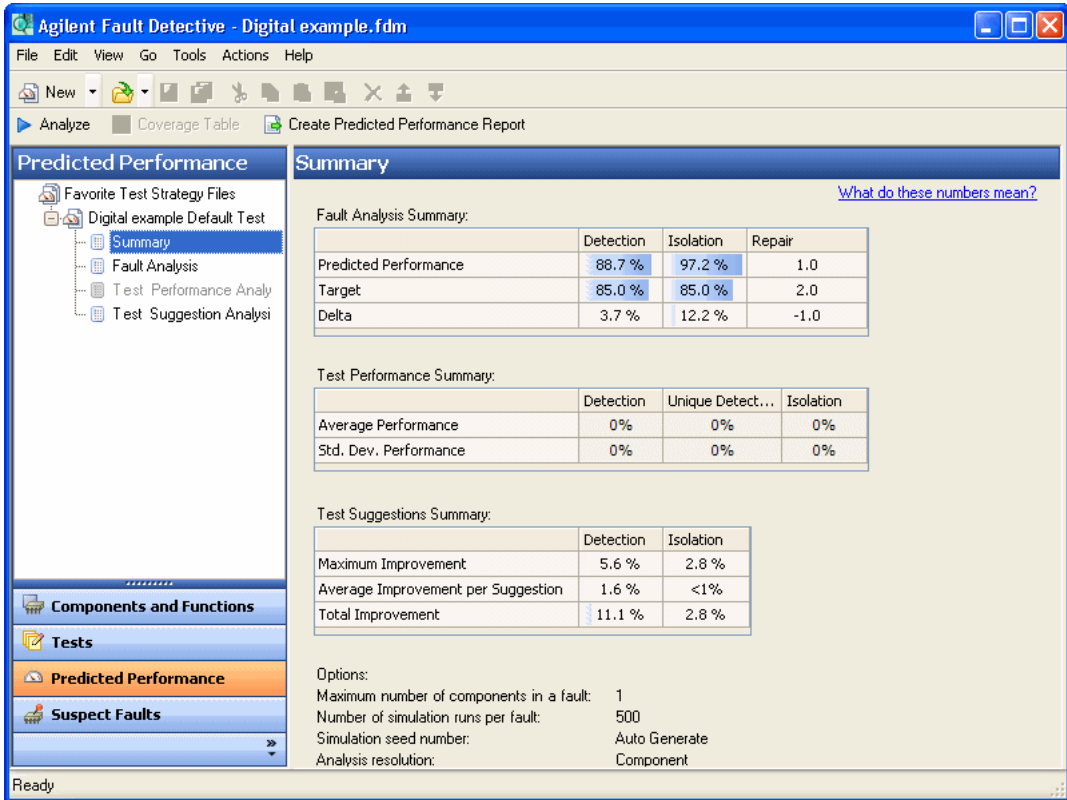
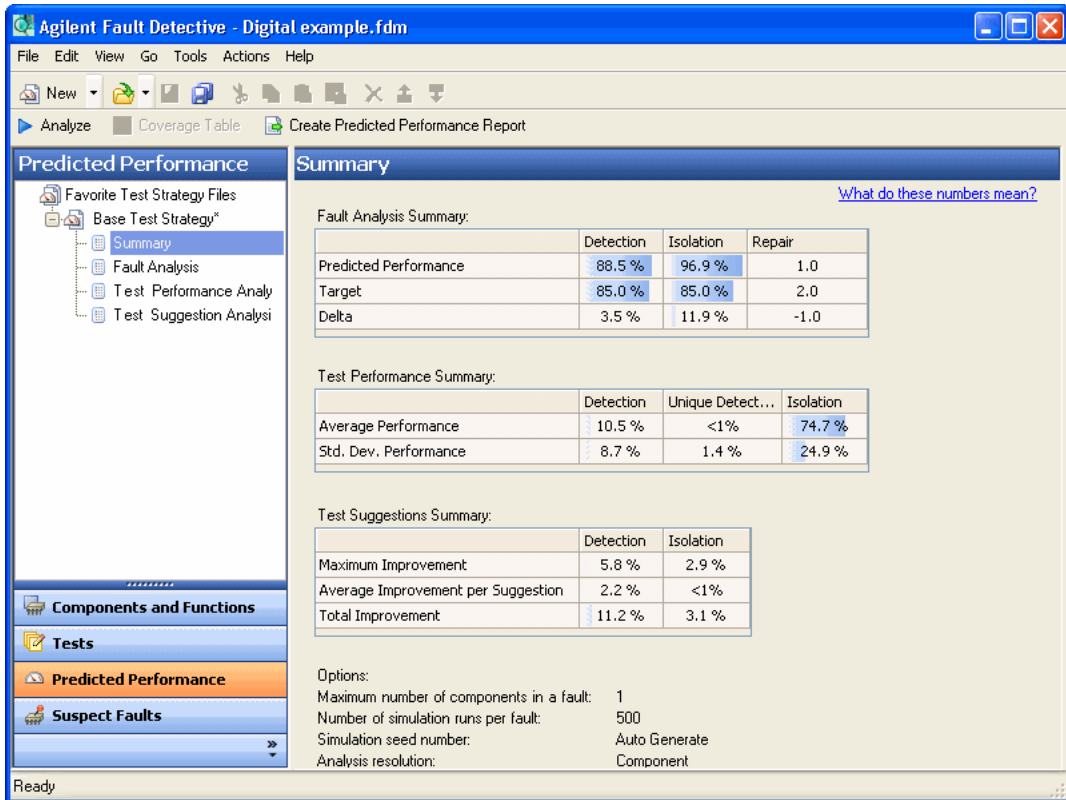

Figure 36 Typical Predicted Performance Summary for the *Digital example.fdm* model
Figure 45 Typical Predicted Performance Summary without the *Set_low*, *Set_mid*, *Read_low*, and *Read_mid* tests
- 4 The analysis produces a predicted performance summary similar to that shown in Figure 36.
Although the analysis numbers in Figure 36 are good, there are still opportunities for improvement.
7 Run the analysis. Compare the analysis summary results with the two tests removed (Figure 45 below) to those with all tests selected (Figure 36 on page 95). The overall performance has changed very little.